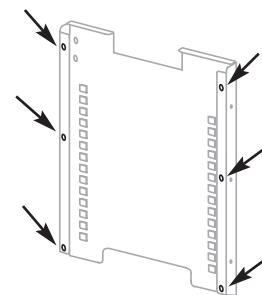

Figure 1-10. Grommets on back of duct sheet
1. Install included grommets into the back flange of each duct sheet (6 grommets each sheet). See Figure 1-10.